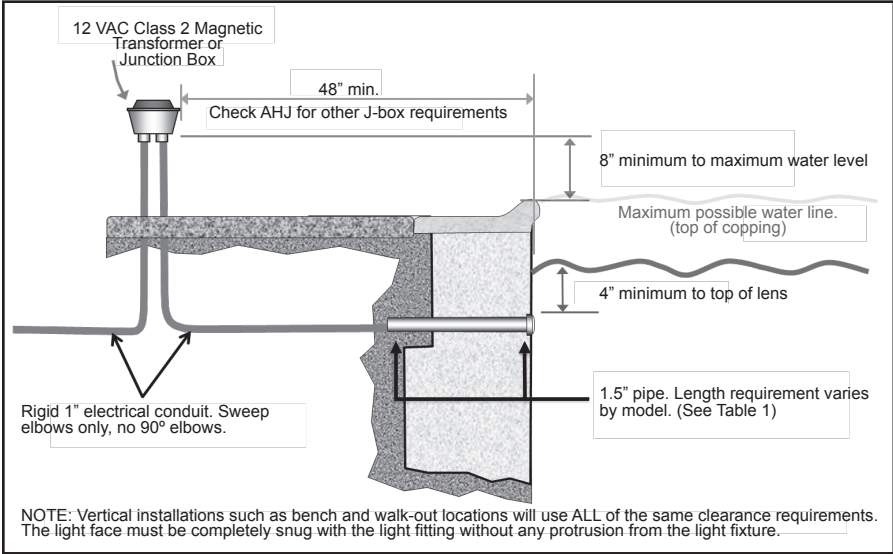

Figure 1. Jandy® LED Light Installation with Standard 1.5" Plastic Fitting
NOTE: The electrician must complete preparatory steps before light fixture is installed. See Figure 1.
1. The junction box or the low-voltage magnetic transformer must be located at least eight (8) inches (measured from the inside of the bottom of the junction box or transformer) above the MAXIMUM water level, OR at least four (4) inches above the ground level or pool deck, whichever is greater. The junction box or 12VAC magnetic transformer must also be installed at least forty-eight (48) inches (4 ft.) from the edge of the pool. See Figure 1.
- See Figure 1.